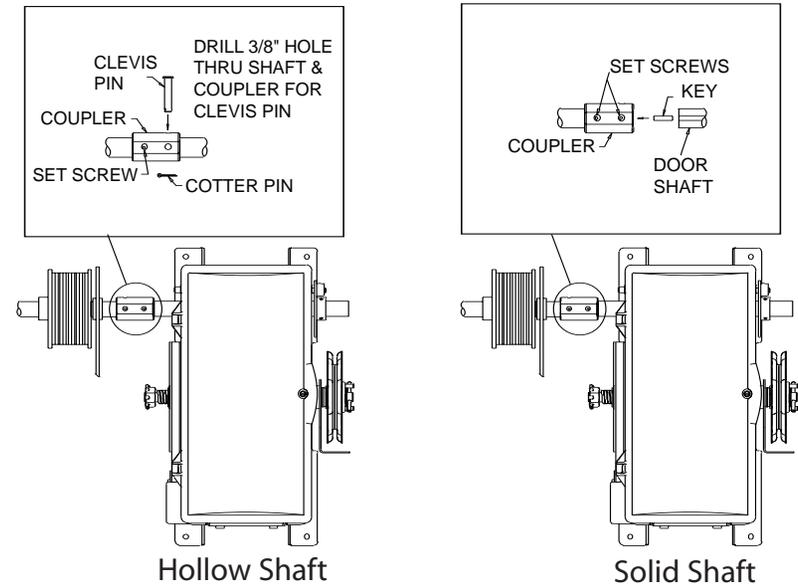

Figure 5
- 1) Use coupler as a drill guide and drill a 3/8" diameter hole through door shaft and other side of coupler. **Fig. 5.**